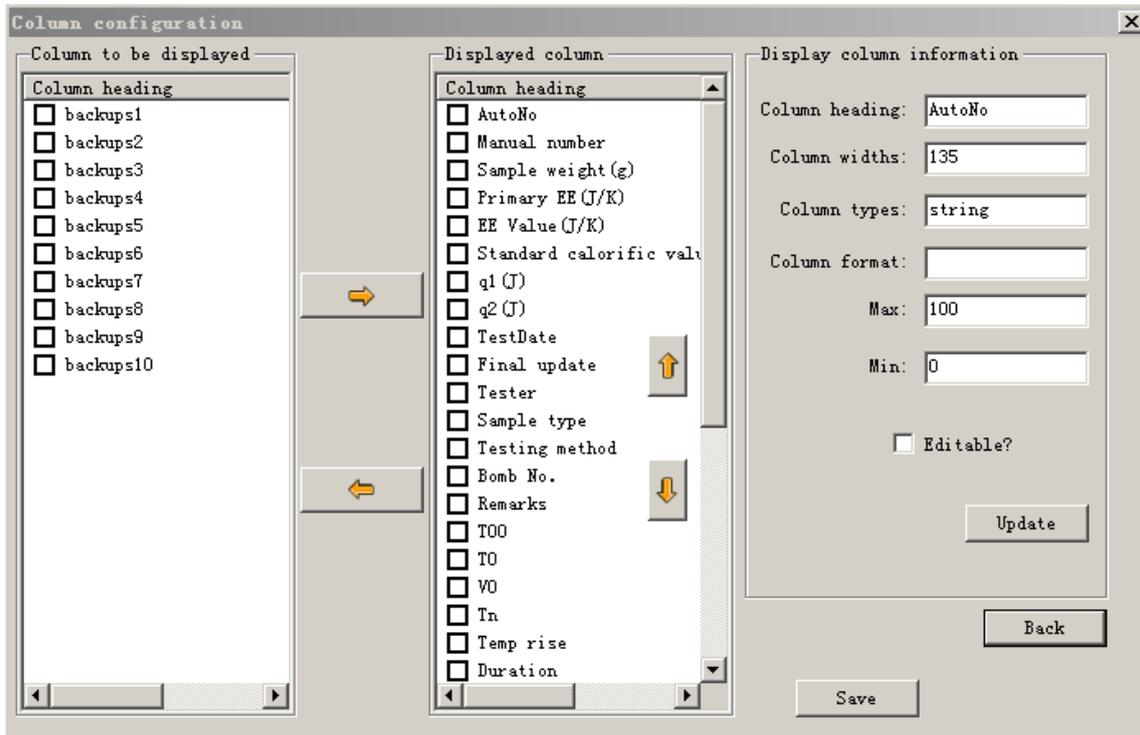

Fig.5-1-3 Column configuration interface
6. Column management: For login user that has a column management authority, can manage the display column for heat capacity and calorific value. The operating interface is shown in the diagram below as Fig 5-1-3. The specific functions are introduced below: